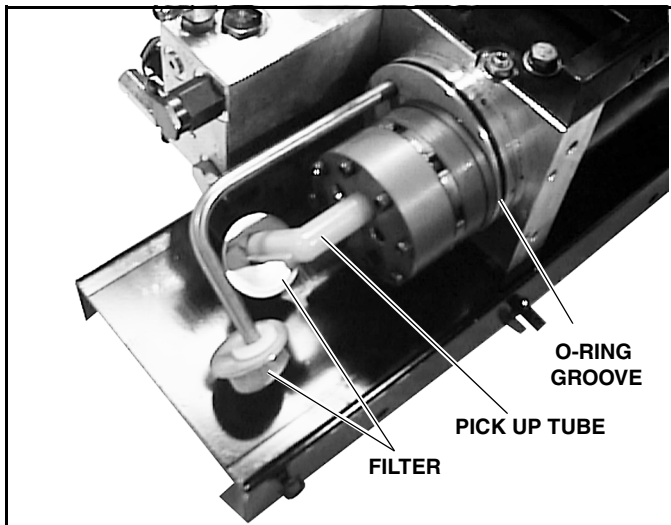

Figure 2-2
8. Visually check that the pickup tube and filter face down. (See Figure 2-2). If not, rotate the pickup tube until the tube and filter face down.